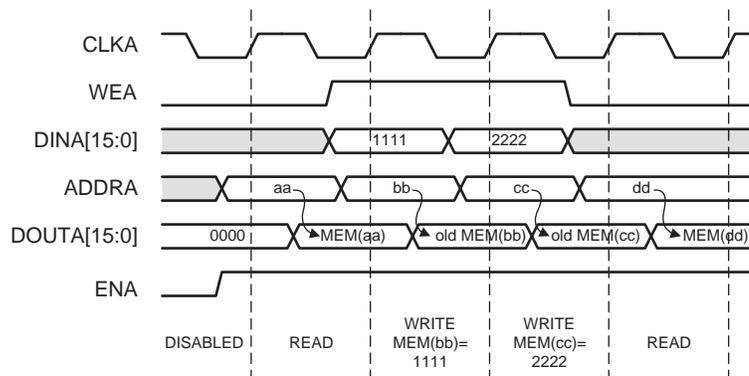

Figure 10: Read First Mode Example
- Read First Mode:** In READ_FIRST mode, data previously stored at the write address appears on the data output, while the input data is being stored in memory. This read-before-write behavior is illustrated in Figure 10.